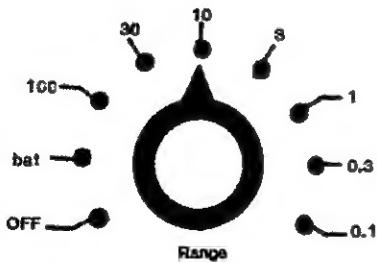

Figure 2. Corrections to be Made to Readings with Various Switch Positions to Give True Reading of Radiation
3.4 Meter Readings - The meter scale is calibrated in milliroentgens per hour (mR/h) when used with the standard model 491-30 Probe on ^{137}Cs gamma radiation. The secondary scale on the meter face indicates approximate counts per minute (cpm). Multiply the scale reading by the range switch setting (X100, X30, etc.) to determine the dose rate. These corrections are illustrated in Figure 2.